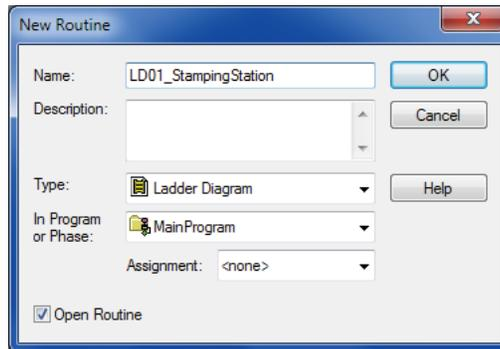

Figure 98. New ladder routine.
10. Right-click *MainProgram* and select *Add ► New Routine*. Enter the information found in Figure 98 to create a new ladder routine called *LD01_StampingStation*.